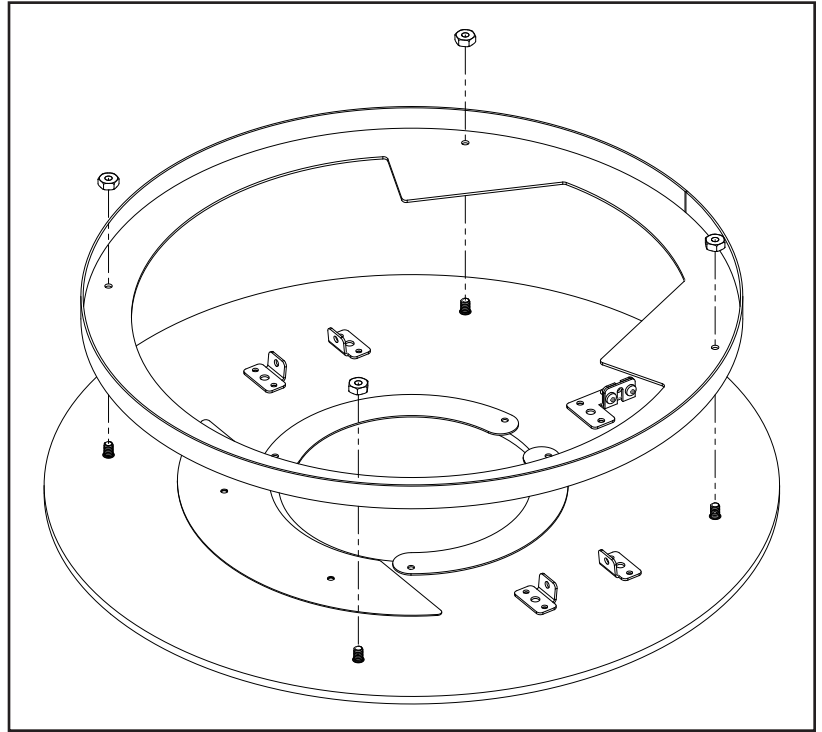

Figure 31: Top Plate Fascia Band Removal
Remove the four (4) nuts retaining the fascia band using a 3/32" (or 9mm) socket (see Figure 31).